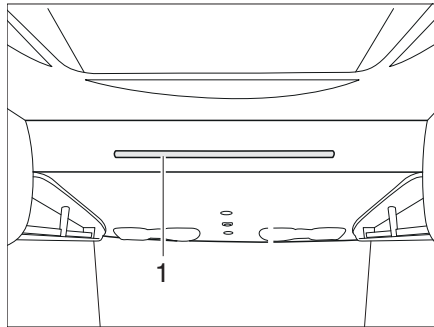

Fig. 143 Manual pull-down bed
- Pull the handle lever (Fig. 143,1) downwards in order to unlock the pull-down bed.
- Hook the access ladder to the pull-down bed by attaching both brackets into the bar (Fig. 143,1).